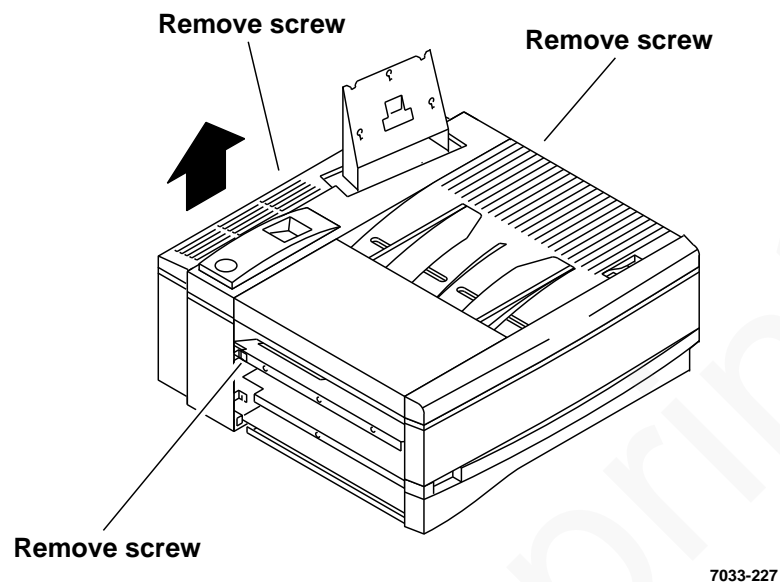

Figure 3. Rear cover removal
- c. Remove left rear cover screw (Figure 3).